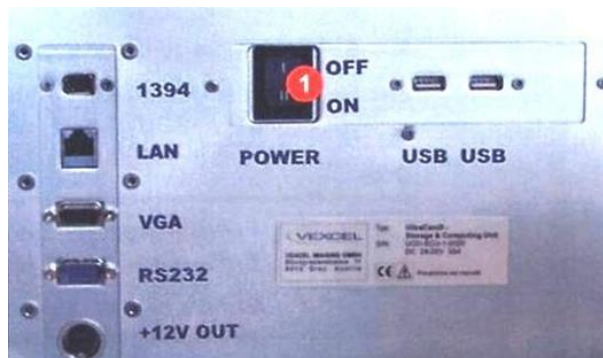

Figura 6. Switch principal del Storage and Computing Unit (SCU)
5. Encienda la Ultracam D usando el switch principal de la storage and computing unit (SCU), Figura 6.